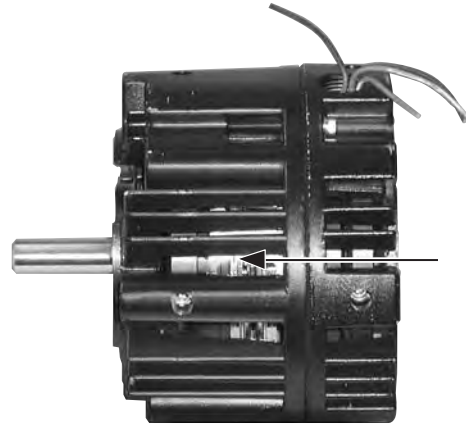

Figure 6
To set the airgap for an Electro-Module (EM) you will need to access the armatures. On an EM there are gaps between the fins on the housing on 1/2 of the unit circumference. When looking through this gap, you will see the fan on the clutch rotor. In that fan there is a 1/2 x 1 inch window. It is possible to look inside the unit and see the armatures by looking through this window. When looking through this window you will be looking between the two armatures of a clutch/brake unit as shown in figures 6 and 7.